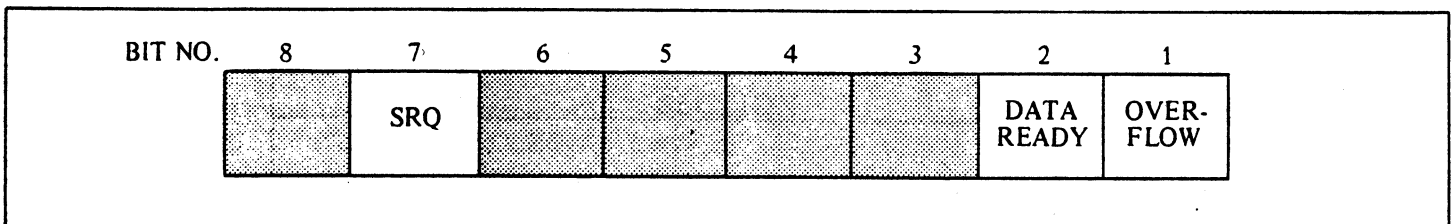

Figure 3.5 - Status Byte Format
3.2.8.2 The status byte is shown in Figure 3.5. Note that it contains 3 bits that convey specific information. Bit 1 when set to a 1 indicates that the instrument has overflowed. Bit 2 when set to the 1 state indicates that the instrument has completed a measurement and has data ready for transmission on the bus to the controller. Bit 7 indicates that the 9000A has transmitted a service request (SRQ).